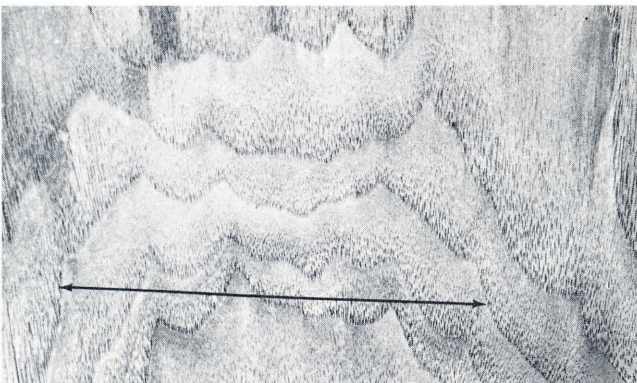

Figure 8—Rotary cut black walnut veneer. Note wide separation of growth ring ends in horizontal direction.
pare Figures 8 and 9 for difference in appearance of rotary cut and sliced veneer of the same species.
22. Chocolate to purplish brown, prominent grain figure on tangential surface, distinct odor (Fig. 8 or 9) **Black Walnut**